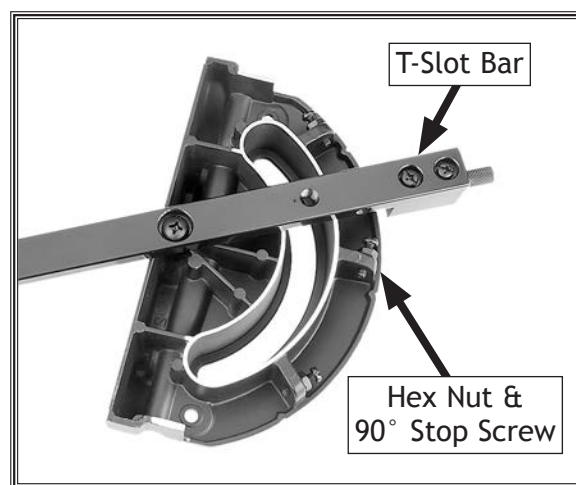

Figure 109. Miter gauge components.
4. Loosen the hex nut (jam nut) that secures the 90° stop screw (see **Figure 109**), and adjust the stop screw until it is seated against the shaft while the square is evenly touching the miter body and the blade body, then tighten the hex nut.
Follow the same process with the 45° and 30° stops that you followed with the 90°, except using a 45° and 30° square or adjustable square to verify that the miter body is 45° and 30° to the blade, as shown in **Figure 109**.